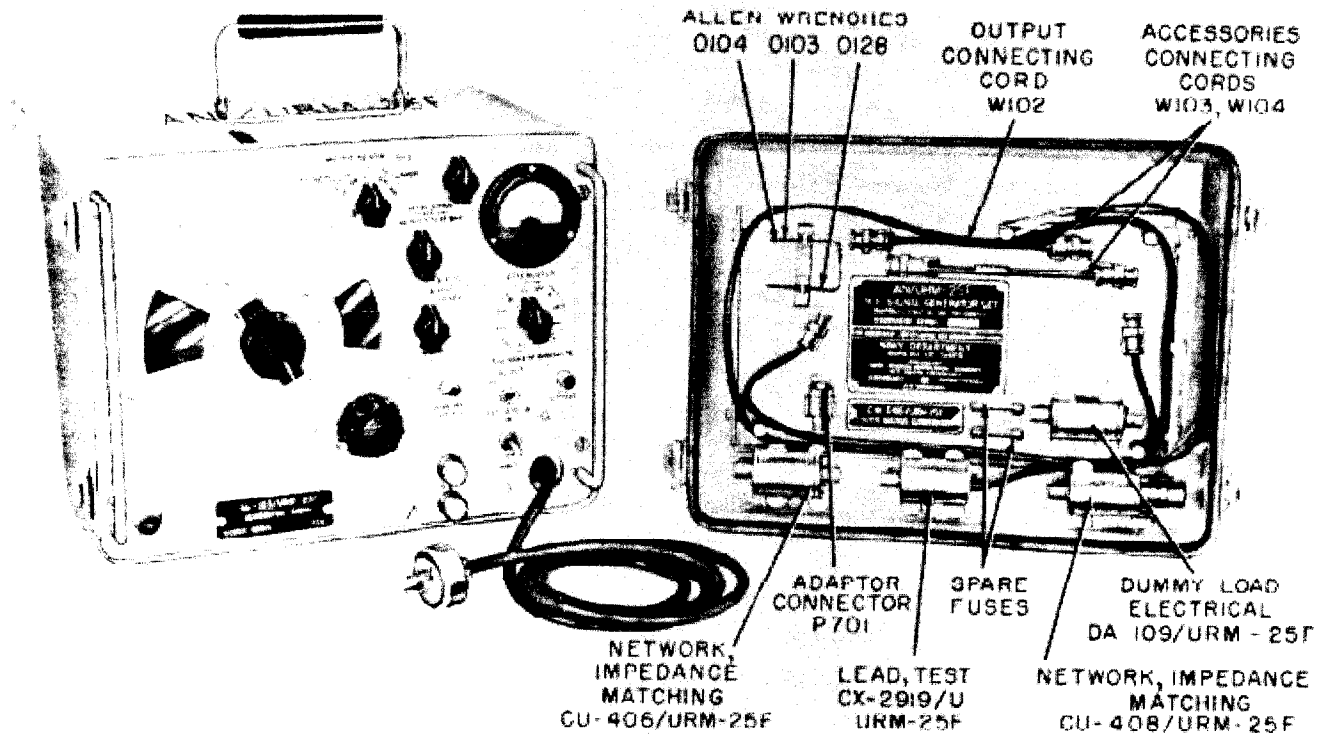

Figure 1-1. RF Signal Generator Set AN/URM-25F Complete Equipment with Accessories
*b.* All units, including the power supply, are incorporated in a single portable cabinet (see figure 1-1). The units supplied and their weights are listed in Table 1-1.
- (1) Generator, Signal.....SG-103/URM-25F
- (2) Power Supply .....PP-1322/URM-25F
- (3) Cover, Signal Generator..CW-346/URM-25F
- (4) Network, Impedance Matching